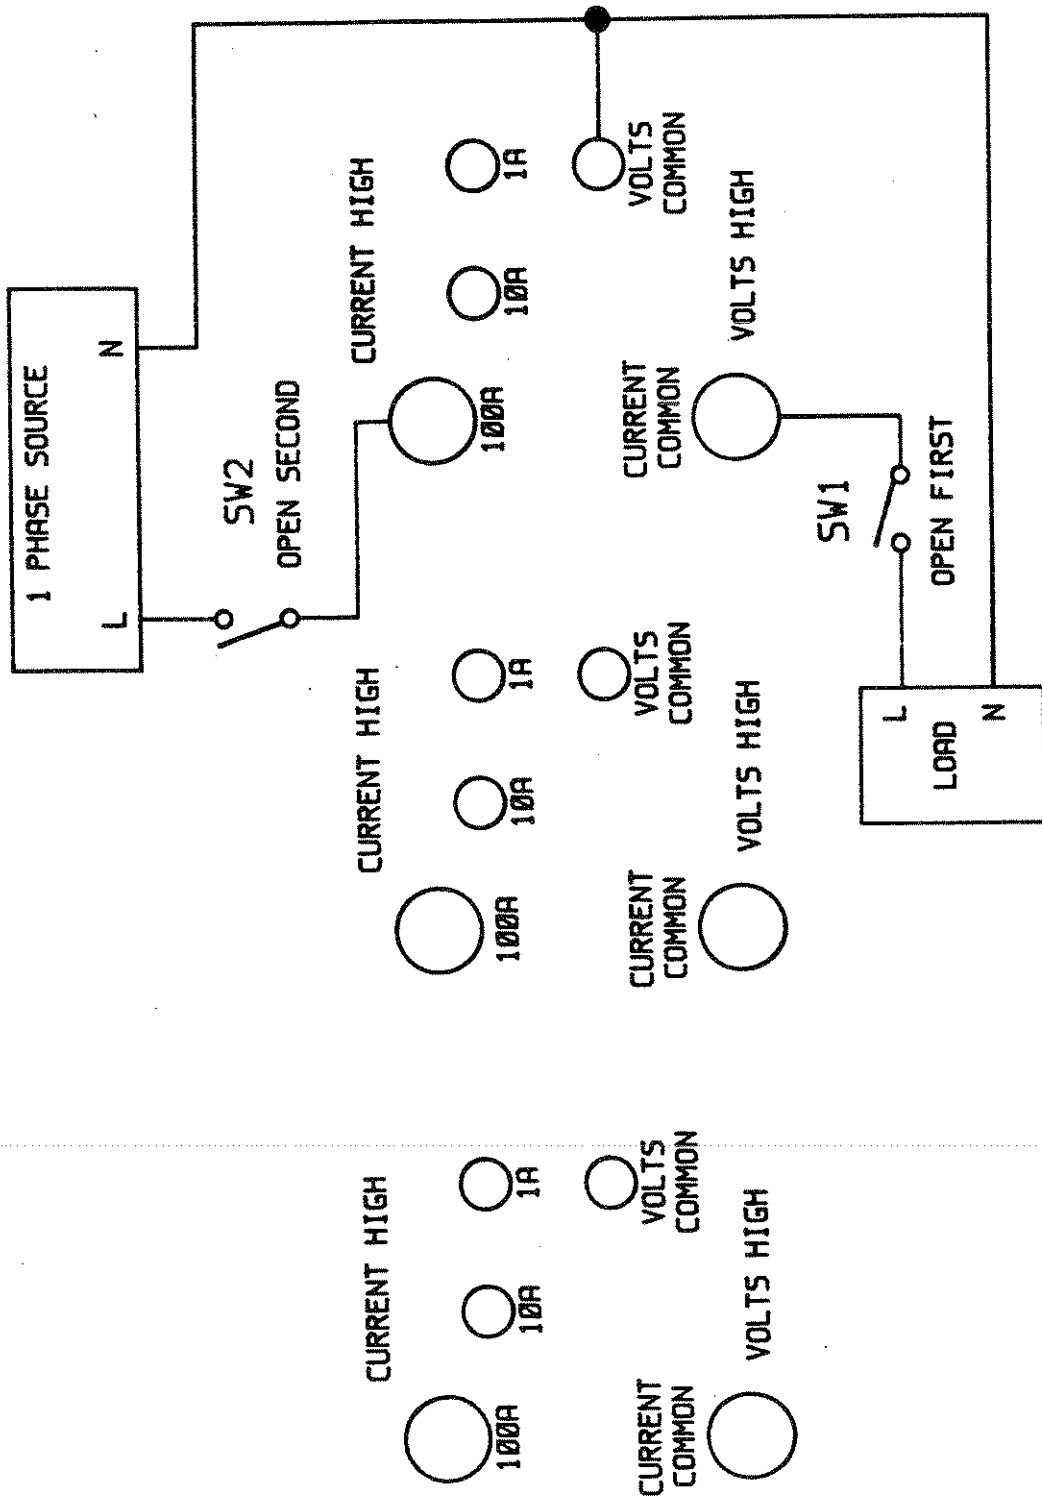

FIGURE 1 SINGLE PHASE INDUCTIVE LOAD PROTECTION METHOD 1
- Figure 1. Single-phase Three-wire Power
In this method a switch is placed between the 2300 and the inductive load. When disconnecting, the load switch SW1 should be opened first. Switch SW2 can now be opened, disconnecting the 2300 from the source. Figures 1, 2 and 3 detail this type of protection for single and three-phase loads.